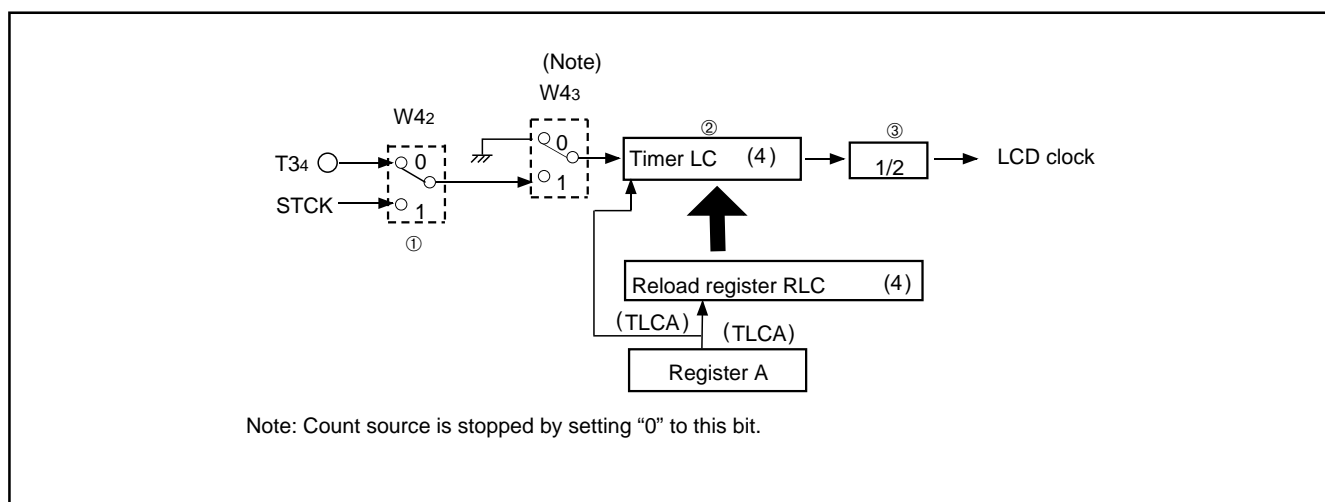

Fig. 32 LCD clock control circuit structure
(2) LCD clock control
The LCD clock is determined by the timer LC count source selection bit (W42), timer LC control bit (W43), and timer LC. Accordingly, the frequency (F) of the LCD clock is obtained by the following formula. Numbers (① to ③) shown below the formula correspond to numbers in Figure 32, respectively.